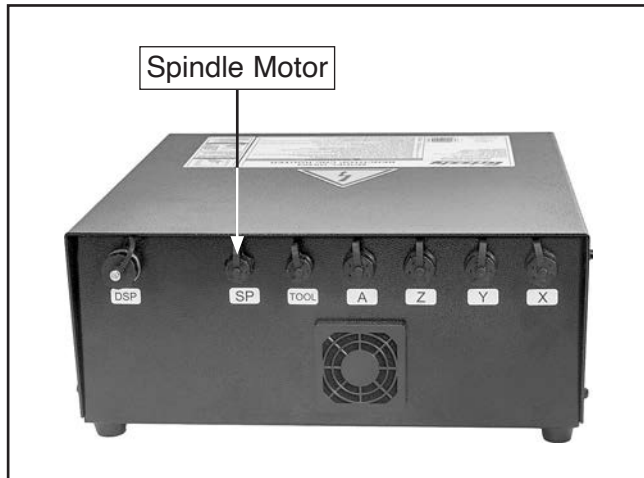

Figure 21. Location of spindle motor receptacle on control box.
7. Connect spindle motor plug to matching receptacle on rear of control box shown in **Figure 21**.